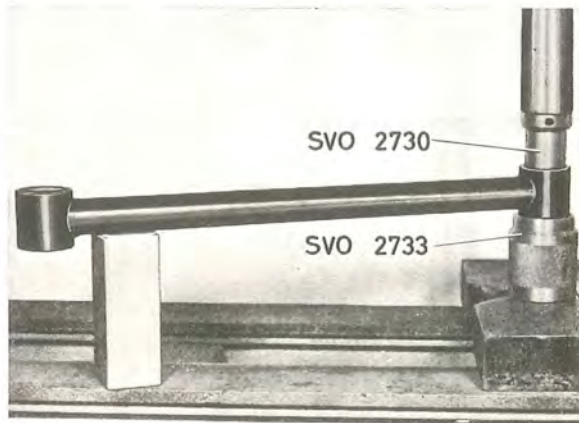

Fig. 7-11. Removing the bush, track bar
5. Press out the rear bush with tool SVO 2730 and tool SVO 2733. Press in the new bush with the same tools, but using tool SVO 2730 in the reverse direction (Fig. 7-11).